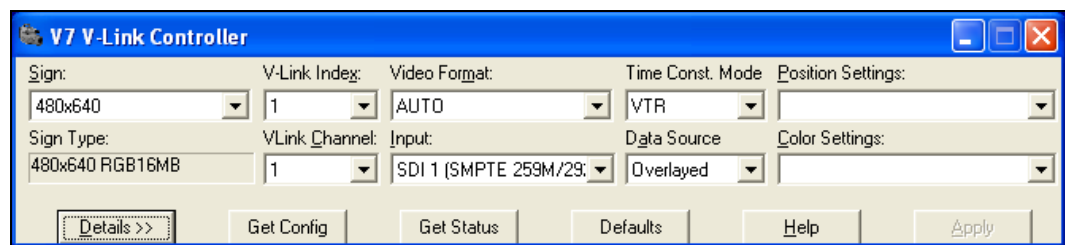

Figure 6: V7 V-Link Controller Dialog Box
1. In the *Venus 7000 Shell*, open the *V7 VLink Controller* application by clicking the **V-Link 4500** icon or by pressing **[V]**. The *V7 VLink Controller* dialog box opens; refer to **Figure 6**.
15. To manually switch between VIP 4500s, inputs, and data sources in the *Venus 7000 Shell*, press **[V]** for the processor. The *V7 VLink Controller* dialog box, shown in **Figure 6**, opens.